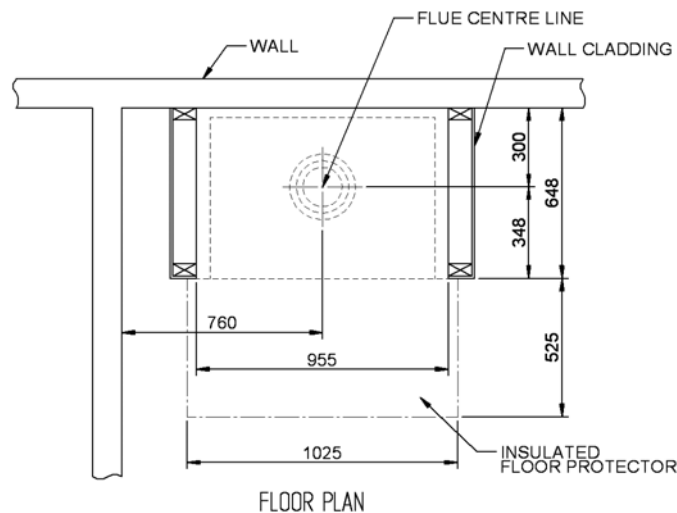

Fig. 2
1. Inspect the house construction at the proposed installation position to verify that the flue casing (250mm diameter, plus 25mm clearance all around) can pass through the ceiling space without requiring the removal of essential roof or ceiling support beams. The flue centerline will be 300mm from the rear wall and it must be at least 760mm from any side wall. (See Fig. 2).
4. **Frame up the enclosure** using normal 90x45mm dressed timber, verifying that it will be on the flue centerline. (See Fig. 2). The overall depth should be  $(648 - t)$  mm, where 't' is the cladding thickness. The distance between the front uprights must be 955mm (use the supplied metal support angle as a spacer). Fix the metal support angle between the two front uprights at a height of 810mm above the base of the shielding (zero clearance) box.
7. For heat sensitive floors, construct an **insulating floor protector** of the shape shown in the Floor Plan (Fig.2). (see below for concrete floors). The standard insulating floor protector is constructed of two layers of 16mm thick MICORE 160 or three layers of 12.5mm thick MICORE 300 or one layer of WOODTEX 35mm thick, topped with a 6mm sheet of Hardies TILE & SLATE UNDERLAY and a layer of tiles or slate. This will give a thickness of approximately 50mm, and the extension from the face of the front cladding must be at least 525mm. The floor protector must be at least 1025mm wide. It is desirable to carry the floor protector all the way inside the enclosure to ensure that the bottom of the shielding box does not rest below the top surface of the floor protector.
You can create a 'different look' installation as per Fig. 7 and variations of it. The minimum dimensions for the plan view (floor plan) are the same as for the 'wall to ceiling enclosure' (See Fig 2). The inside height of the enclosure must be at least 1245mm from the bottom of the shielding box rails to the underside of the top panel of the box. The chimney chase must be at least 440mm square over the wooden frame which is made from 45x90 dressed timber (See Fig.7), or it could also be made from tube with an inside diameter of 350mm. The chimney chase frame can be made from timber and the cladding can be made from GIB-board. The whole front cladding of the enclosure must be made from heat-resistant material like PROMATECT H, ETERPAN LD or SUPALUX. The side cladding and the top panel can be made of any cladding material (it does not have to be heat-resistant material). Of course the supplied steel angle support which supports the front cladding immediately above the shielding box must be used as above. All other constraints are as above. The top panel of the box enclosure must have an opening of at least diameter 350mm where the flue system exits the box.